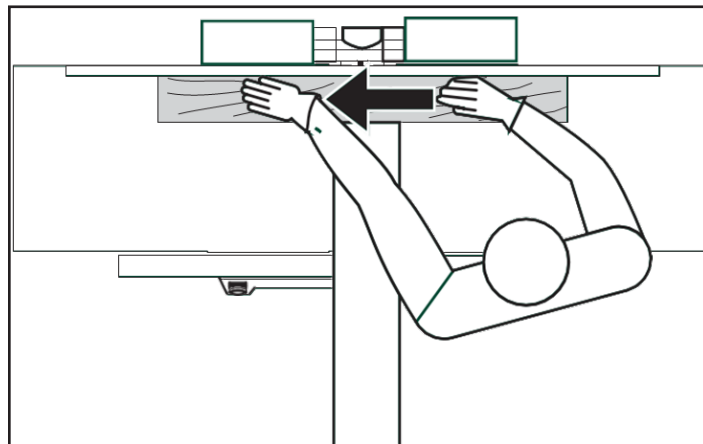

Figure 29: the Correct Jointing operation.
3. When jointing, feed the workpiece right-to-left over the cutterhead FIG.29.
6. Adjust the cutterhead guard for user protection (FIG. 29).
9. Assume the proper operating position: Stand to the side of the infeed table with feet apart for stability throughout the cutting process FIG. (31).
NOTE: When cutting narrow board edges or workpieces more than 3" thick, position the cutterhead guard close to the side against the workpiece (FIG. 29).